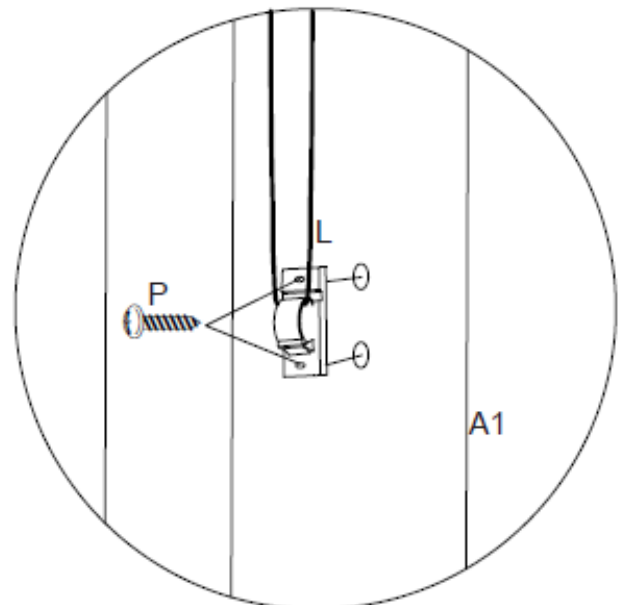

Figure 8-2
Attached the plastic anchor on the Pull-Down Screen (L) to the Post (A1) by Self-Tapping Screw (P). See Figure 8.2.